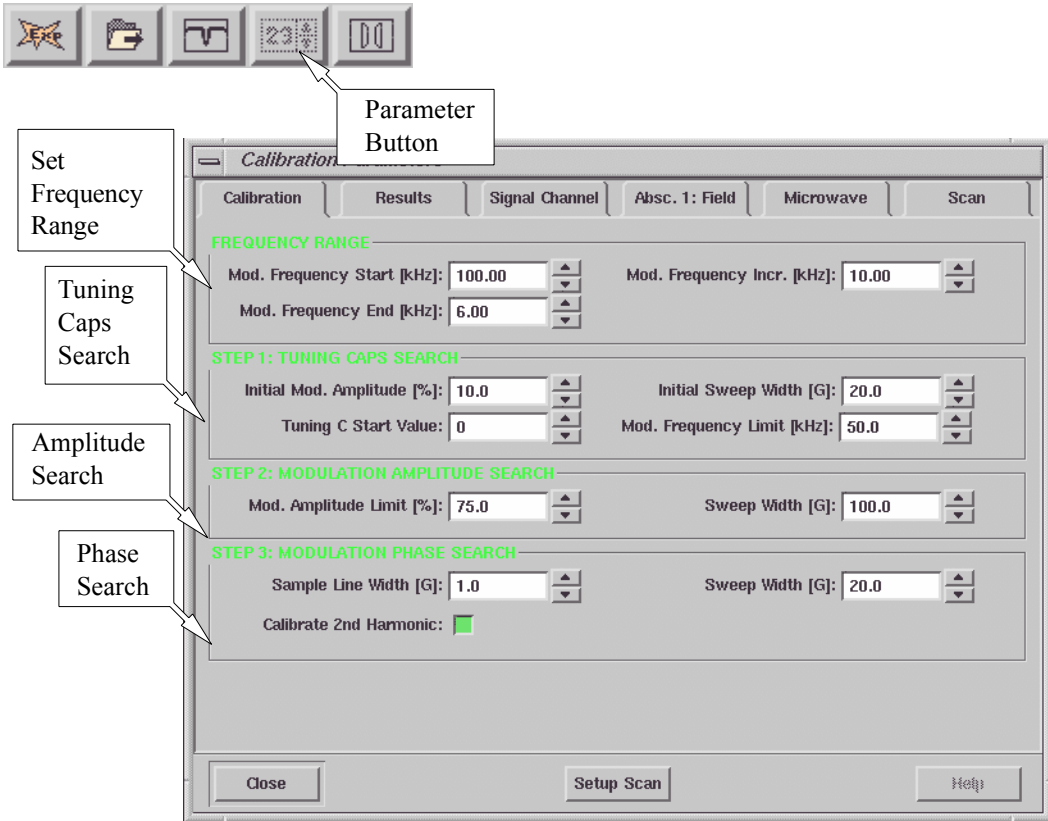

Figure 2-6 The Calibration Parameters dialog box.
3. **Open the parameter dialog box.** Click the Parameter button to open the Calibration Parameters dialog box. If the Calibration folder is not in front, click its tab to bring it to the front. (See Figure 2-6.)
4. **Set the calibration frequency range.** A calibration is required for each modulation frequency that you intend to use. The SCT/H signal channel, has a range of 100 kHz to 6 kHz in 0.1 kHz steps. The SCT/L signal channel covers the frequency range of 6 kHz to 100 Hz in 1 Hz steps. Most people will normally run all their spectra using 100 kHz modulation, but under some special circumstances, other frequencies may be desirable. A good approach to take is to calibrate the signal channel every 10 kHz from 100 kHz to 10 kHz. A sufficiently large range of frequencies is then covered for most EPR experiments. Enter the Mod. Frequency Start [kHz] (usually 100 kHz), Mod. Frequency End [kHz] as well as the Mod. Frequency Increment [kHz] values. The start value must be greater than the end value. (See Figure 2-6.) Note that you should set the start and end values equal to each other for ER 4122SHQE or ER 4119HS cavities so that only one frequencies at a time is calibrated. (See the warning in the lefthand margin.)
5. **Set initial values for the tuning caps search.** The parameters in this section set the starting values for the tuning capacitor search. (See Figure 2-6.) The **Initial Modulation Amplitude** defines the modulation amplitude used when optimizing the tuning capacitors. The default value, 10%, is appropriate for most cavities and resonators. The default **Initial Sweep Width** of 20 G works well for a DPPH sample. If you know an approximate optimal value for the tuning capacitors at 100 kHz, you can enter that value in **Tuning C Start Value**. This will save you time because otherwise the searching routine will start from 0 nF. **Mod Frequency Limit** is always set at 50 kHz because skin depth poses less of a problem at lower frequencies.
6. **Adjust the Mod. Amplitude Limit.** The Mod. Amplitude Limit parameter limits the size of the signal sent to the modulation amplifier. This prevents damage to the coils owing to excessive current. Enter a value of 75% for an ER 4122 SHQ cavity. For Flex-line resonators, a value of 10% is more appropriate. A value of 30% works well for ER 4122SHQE and ER 4119HS cavities. It is always safe to set this value a bit low as you will adjust this value later. A 100 G Sweep Width is sufficient for most resonators. (See Figure 2-6.)
7. **Enter values for the modulation phase search.** The parameters in this step depend on your calibration sample. The default values of 1 G Sample Line Width and 20 G Sweep Width work well with the Bruker DPPH standard. The signal channel can produce either a first harmonic (first derivative) or a second harmonic (second derivative) spectrum. If you have no need for second harmonic spectra and wish to save a bit of time in the calibration routine, you may deselect this option by clicking the **Calibrate 2nd Harmonic** button. The green color indicates that the option is selected. (See Figure 2-6.)